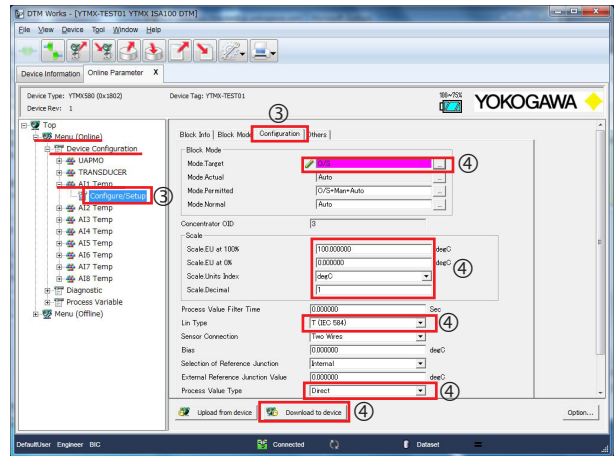

Figure 12
- ③ Click Menu(Online), Device Configuration, A11 Temp, and then Configure/Setup. Then, select the Configuration tab (figure 12).